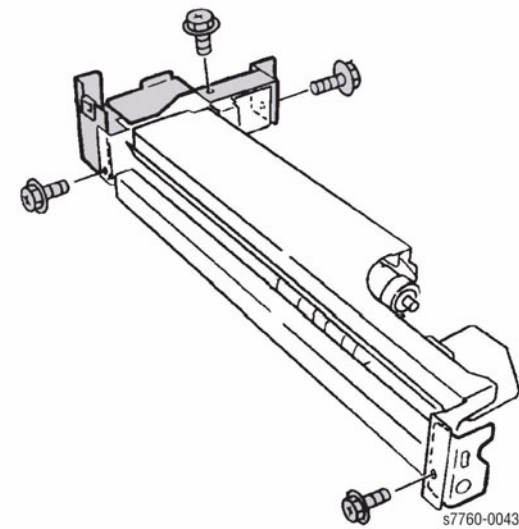

Figure 4 Removing Brackets
6. Remove the 4 screws and the Brackets (Figure 4).